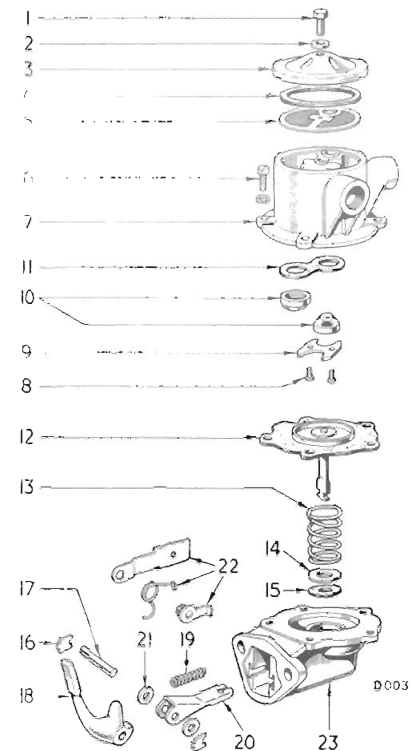
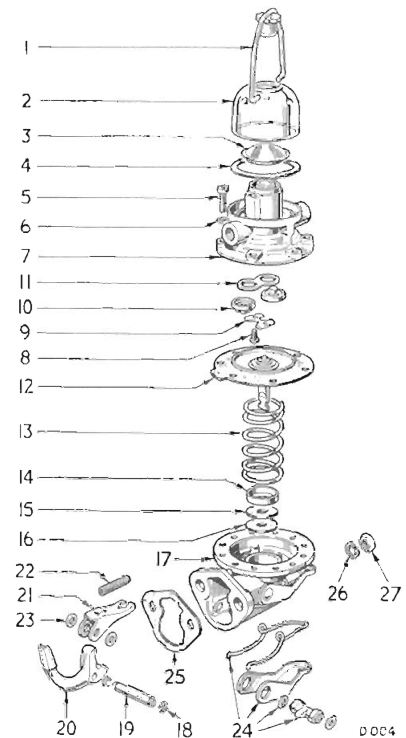

Fig. 1. Exploded view of Spitfire and Herald 1200, 12/50 fuel pump
Fig. 2. Exploded view of fuel pump—Vitesse
- Dismantle in the sequence given on Figs. 1 and 2. Re-assemble by reversing the sequence.
- To remove the diaphragm assembly (12) first turn it through 90° in an anti-clockwise direction and lift it out of engagement with operating fork (20) (Fig. 1) or (21) (Fig. 2).